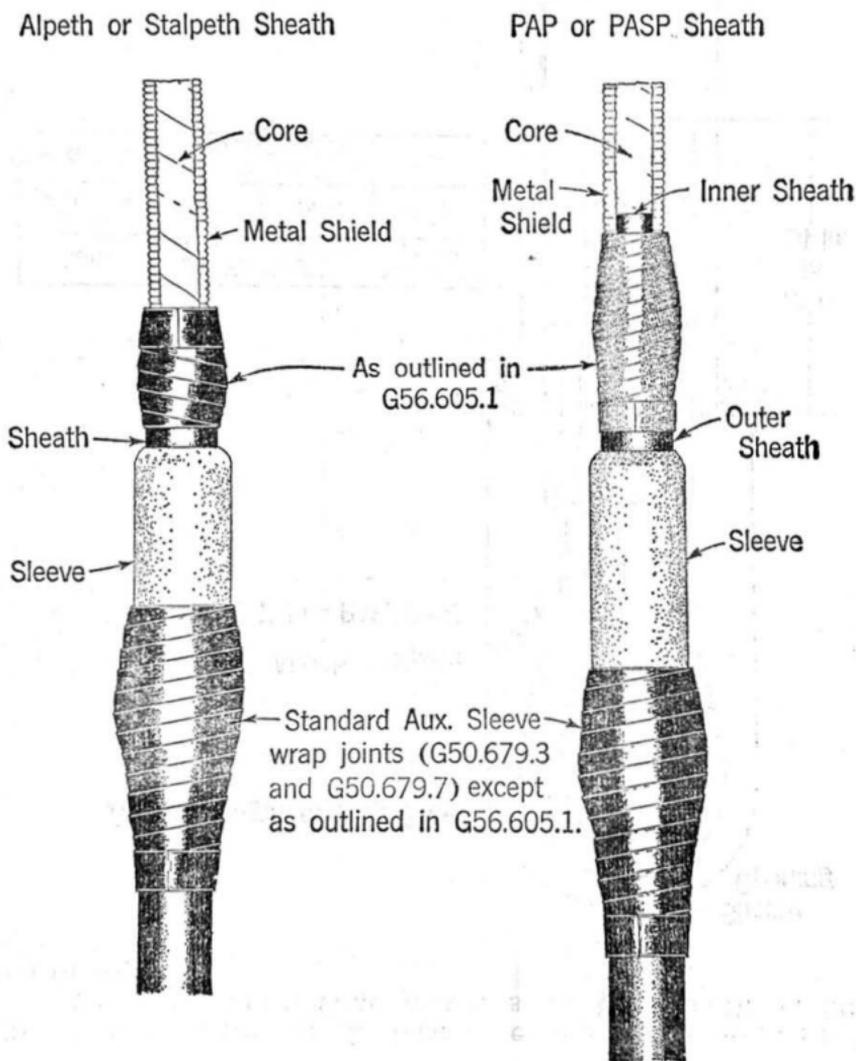

Fig. 3
2.04 The auxiliary sleeves should be installed as illustrated in Fig. 3. The method of making each wrapped joint is covered in detail in other sections of the Bell System Practices. The practice numbers have been included in Fig. 3 for reference.